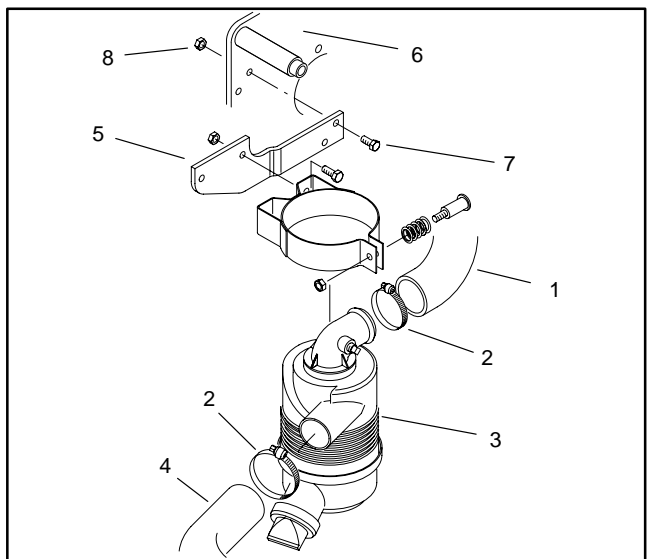

Figure 33
9. Remove air cleaner as follows (Fig. 33):